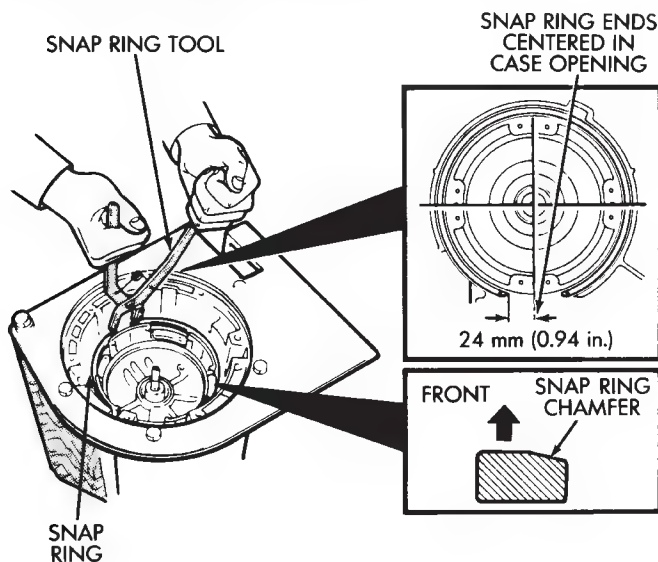

Fig. 38 Installing Overdrive Support Snap Ring
(46) Install overdrive support snap ring with Snap Ring Plier Tool 7540 (Fig. 38). Chamfered side of snap ring faces up and toward case front. **Snap ring ends must be aligned with case opening with ring ends approximately 24 mm (0.94 in.) from centerline of case opening.**